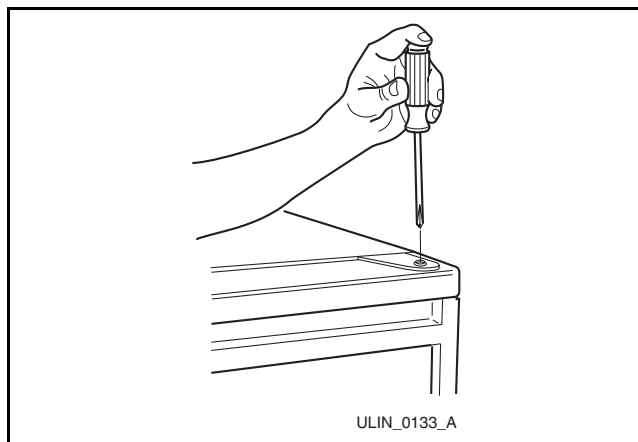

Figure 38
1. Remove top hinge screw pin using a Phillips screwdriver (**Figure 38**). Remove door by tilting forward and lifting off bottom hinge pin.